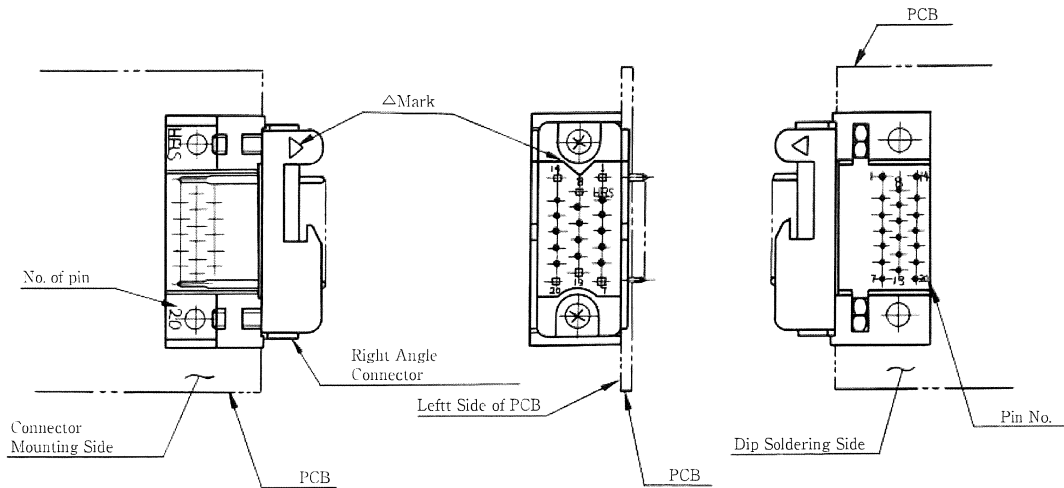

Fig. 1
1. The standard use of this to mount it on the left side of a vertical PCB. (Fig. 1)